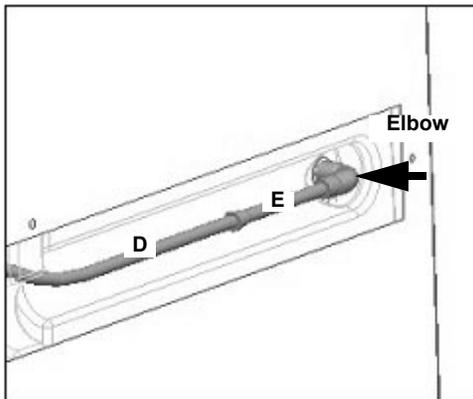

Figure 24.
24. Remove the liquid line (D) and the extension (E) from the left evaporator. **LEAVE** the elbow fitting on the evaporator (Figure 24).